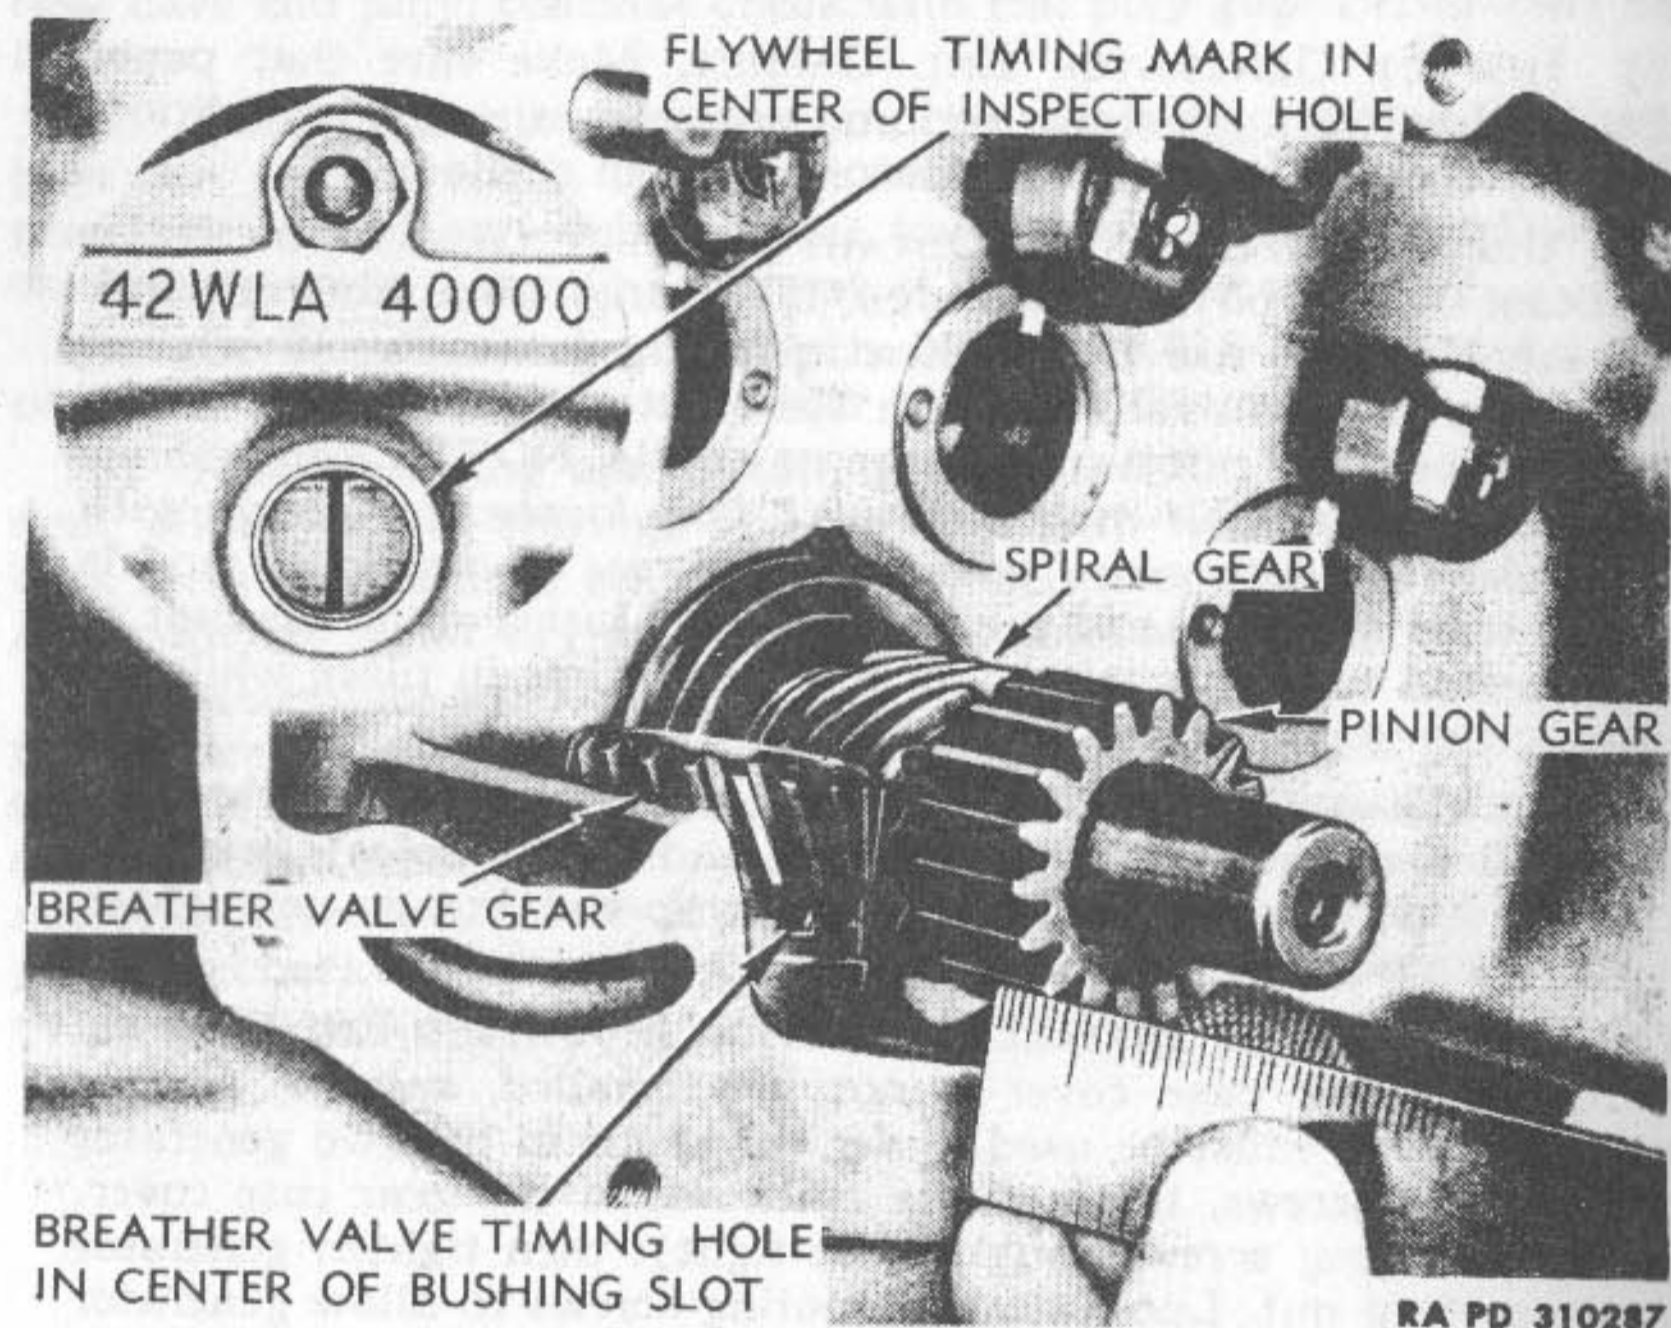

Figure 54—Timing Breather Valve
(1) See that crankcase and pump body faces are clean and that paper gasket is in place (a light film of grease will hold gasket in place), and install pump and breather assembly. Install the washers and nuts on studs and securely tighten nuts.
d. **Time Breather Valve** (fig. 54). In timing breather valve, it will be necessary to shift spiral and pinion gears outward and inward on
(1) Turn engine until timing mark is exactly in the center of the timing inspection hole in left side crankcase (see inset in fig. 54).
(2) Push pinion and spiral gears inward, against pressure of the spring, and try and engage spiral and breather sleeve gear teeth so that hole in sleeve is in center of housing slot when pinion gear outer face is $\frac{5}{16}$ inch from gear case joint face (this is the actual location of the pinion and spiral gears on the pinion shaft when gear case cover is in place). It may require several attempts before spiral and sleeve gears can be meshed to give desired results.
(3) In summarizing the above breather timing instructions, refer to figure 54. Spiral gear must be so engaged with breather sleeve gear that when flywheel mark is in center of inspection hole and pinion gear is $\frac{5}{16}$ -inch from joint face, timing hole in the sleeve registers in slot as shown.
(4) After timing breather valve, exercise care that timing gears are not pulled out of mesh, permitting timing to change, while installing the valve timing gears.